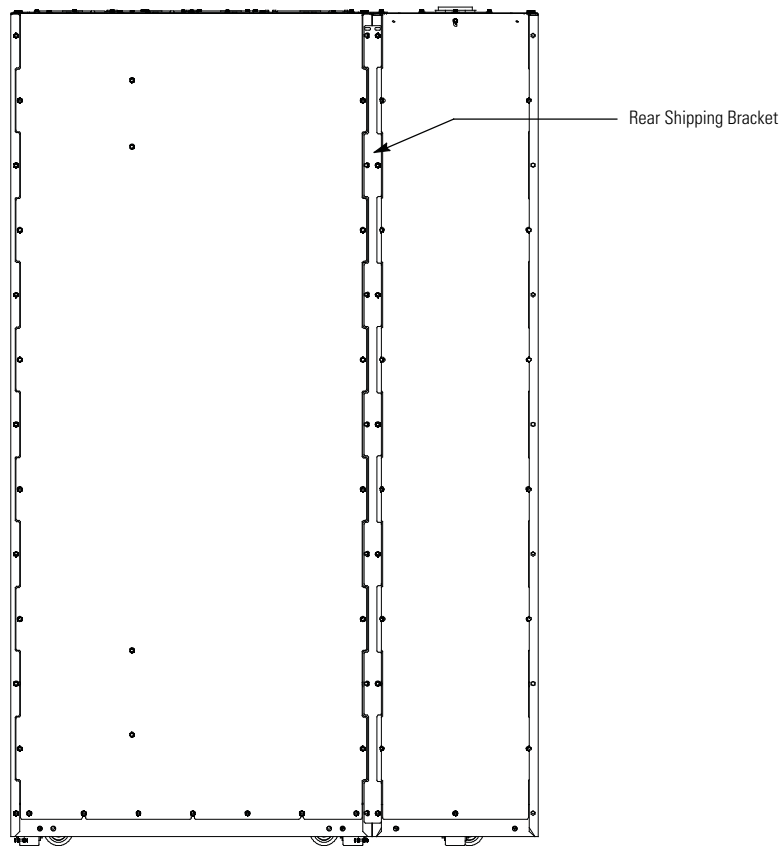

Figure 4-3. Removing the Sidecar Rear Shipping Bracket – Eaton 93PM 200 kW UPS
19. If a sidecar is attached to the UPS, remove the screws securing sidecar rear shipping bracket. Remove the bracket and reinstall the screws (see Figure 4-3).